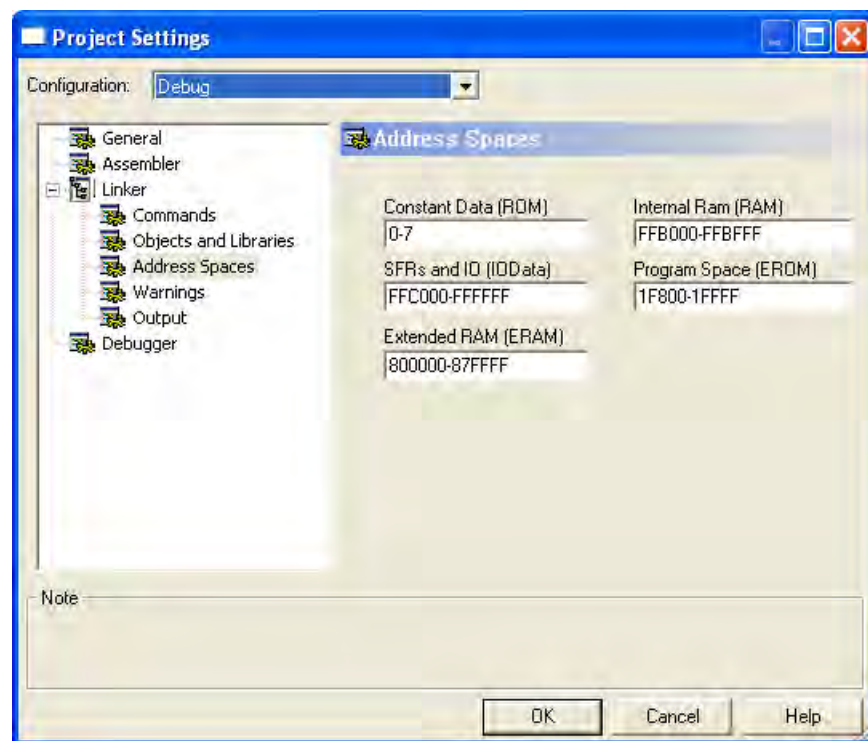

Figure 12. Project Setting (Address Space) of the ZNEO Boot Loader
5. From the **Project** menu in the **Boot Loader** dialog box, choose **Settings** to open the **Project Settings** dialog box. The address settings in this dialog must be the same as those shown in Figure 12.